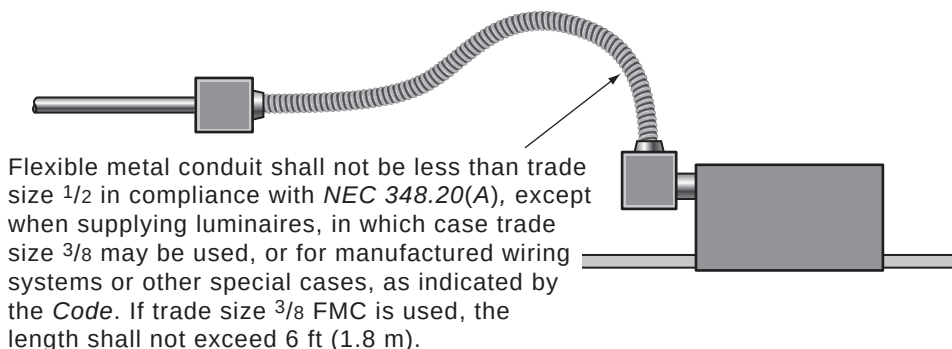

FIGURE 6-12 Flexible metal conduit. (Delmar/Cengage Learning)
- Flexible metal conduit (FMC), Figures 6-12, 6-14, and 6-17. See *NEC Article 348*.